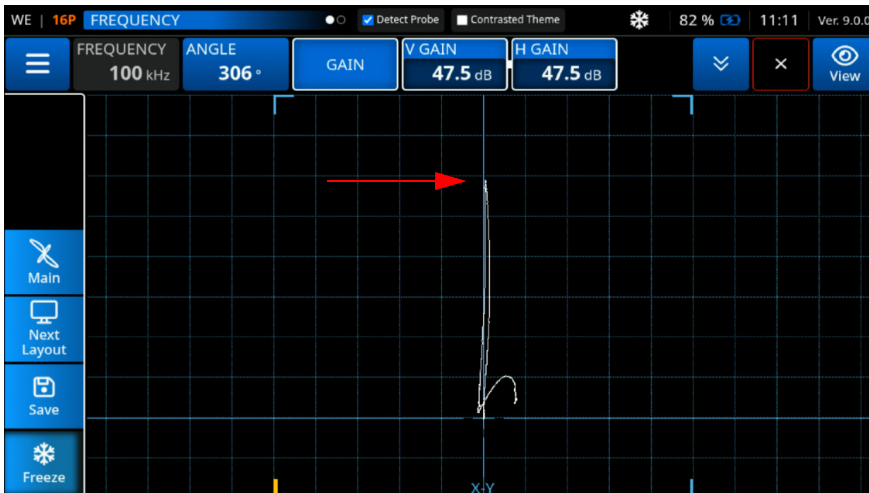

Figure 3-30 Adjust the Gain Setting
- Using the **Gain** setting and the knob, adjust the EDM notch signal in vertical amplitude set at 80% FSH (See Figure 3-30 on page 66).